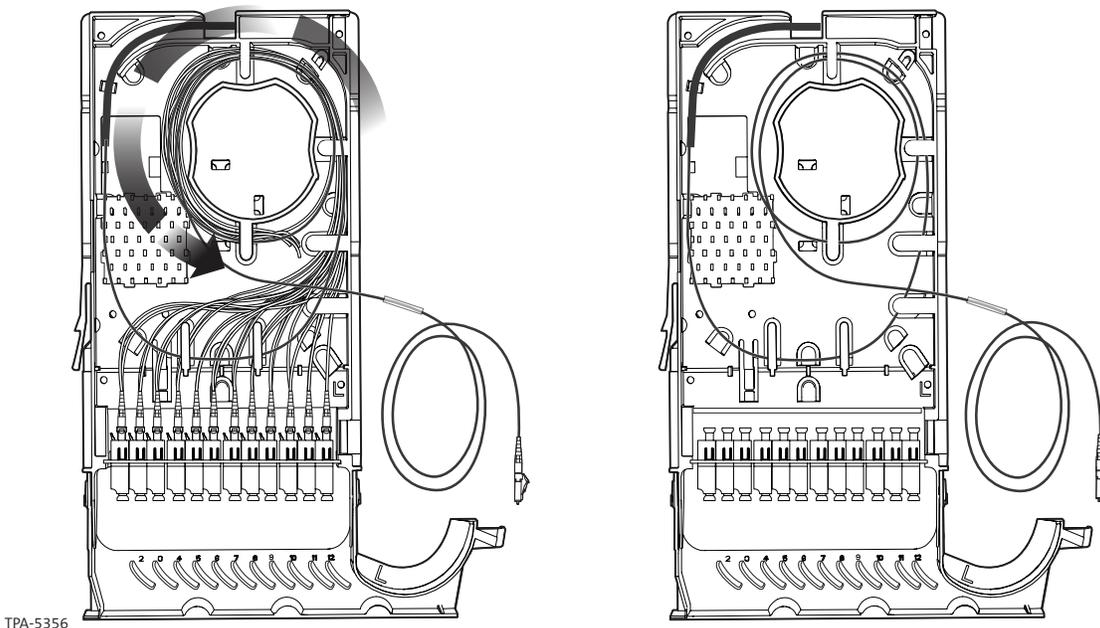

Figure 32
Step 4: If pigtail is 900 μm fiber, splice a pigtail fiber to each input fiber (Figure 32).